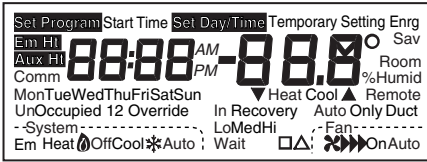

Fig. 3. Display of all the segments of the LCD.
- To enter the Installer Setup, press and hold the Heat/Cool Settings key with both the increase Δ and decrease ∇ keys until the first number is displayed. All display segments appear for approximately three seconds before the number is displayed. See Fig. 3 and 4.